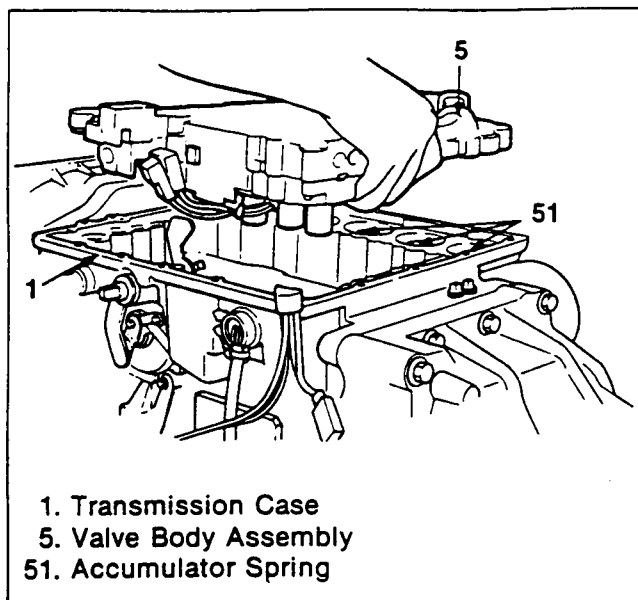

Figure 10. Valve Body Removal
3. Remove the valve body assembly from the case (figure 10).
4. Remove springs (3 pcs) from the accumulators (figure 10).